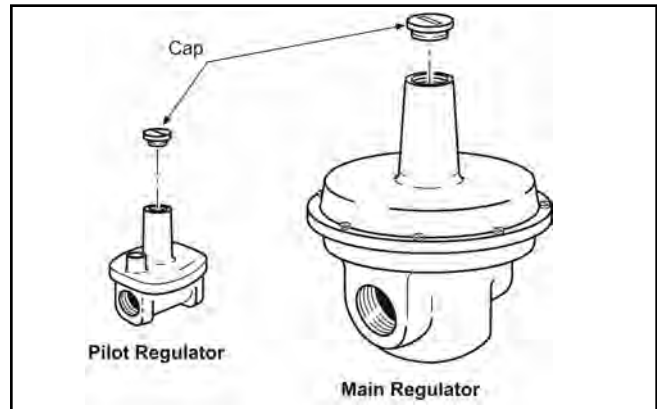

Figure 5-4
**HOW IT WORKS** - See Figure 5-4. Simply stated, gas flow is controlled by a spring of known load range which works against the supply (from the meter) gas pressure. Accordingly, each regulator must be fitted with the right